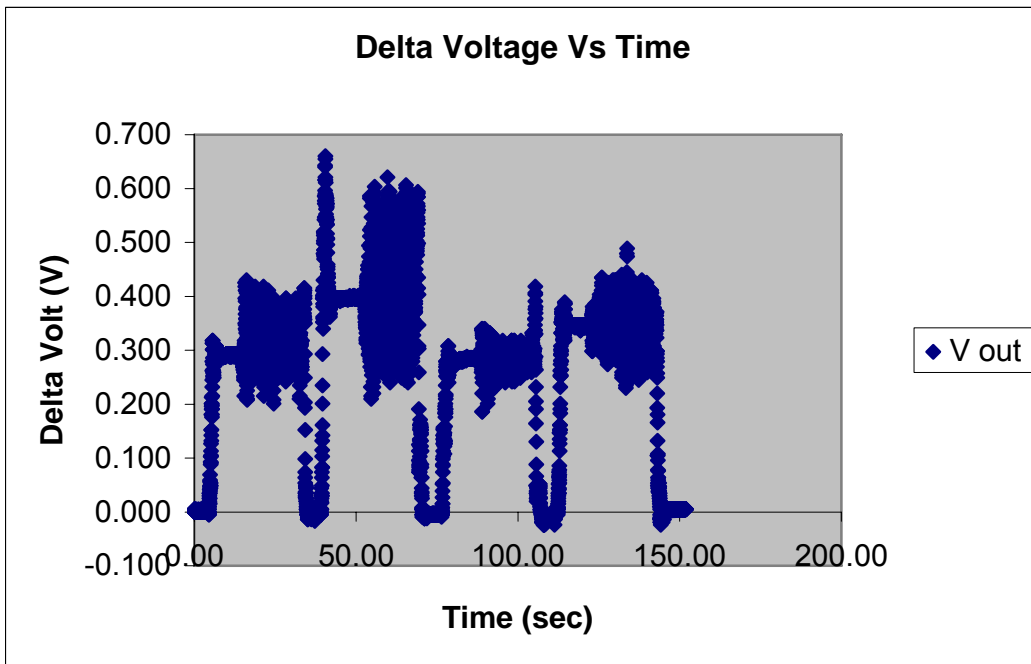

Fig 4. Chart of Delta Voltage Vs Time (Note that the chart does not have events labeled. Students have to label various events in their charts)
1. **Create** a scatter plot chart of the Delta voltage (V_{out}) data vs. time and identify each event on the chart, i.e. unloaded bike, rider 1 gets on, rider 1 sits on bike, rider 1 pedals bike, etc by writing or using Excel text functions. Refer example in Fig 4.